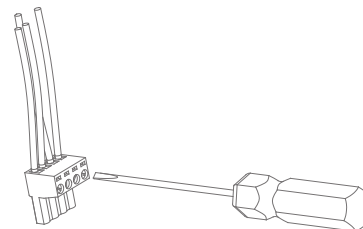

Figure 5:
3. Strip approximately 0.1875" (5mm) of the insulation off each wire. Insert the wire into the correct square opening on the connector. Use a small flat head screwdriver to tighten the corresponding screw to secure the wire (see Figure 5).